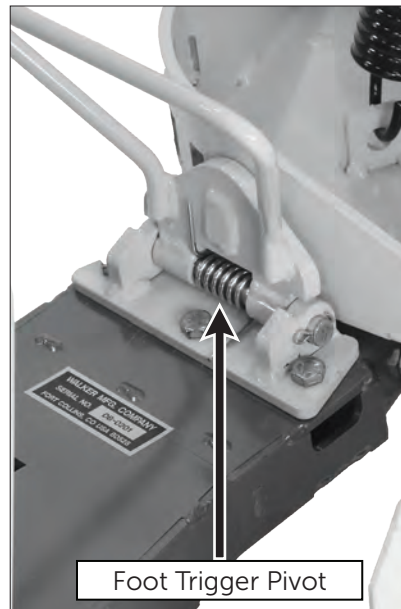

Figure 7.2
- Foot trigger pivot (figure 7.2)